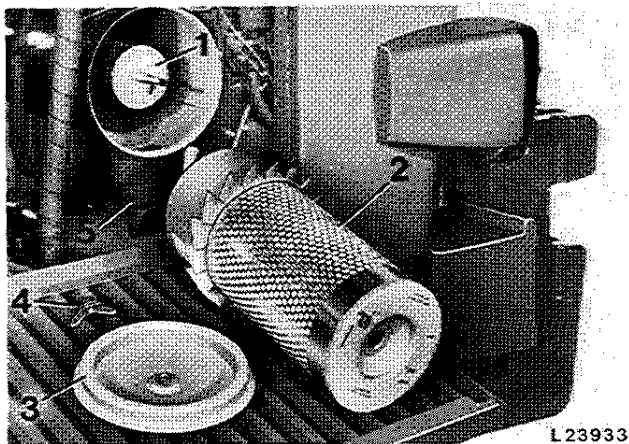

Fig. 3 – Air Cleaner and Safety Element
2. Make sure that dust unloading valve 5 (fig. 3) (rubber cap) is installed on air cleaner.